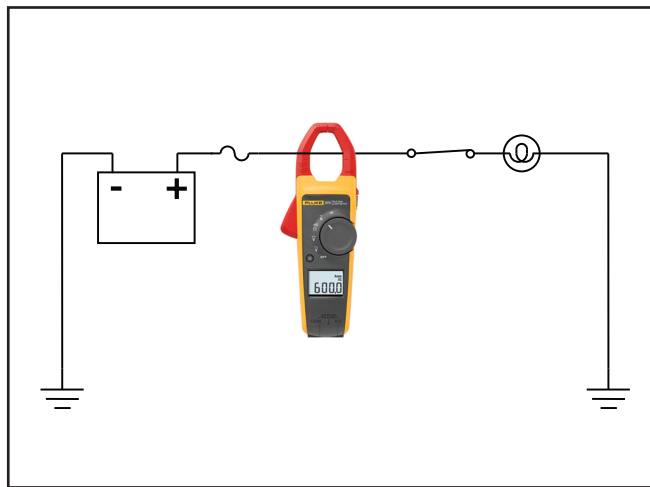

Figure 12
3. Read amperage on the meter (Figure 12).